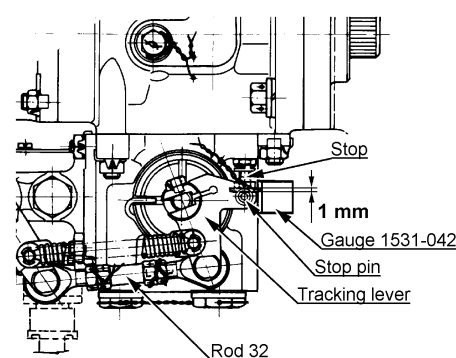

Figure 11-15 Adjustment with element **32**
- e) Insert gage 1531-042 (engine toolkit) between stop and stop pin (figure 11-15). When the clearance between the stop and the stop pin is smaller, shorten rod **32** by turning.